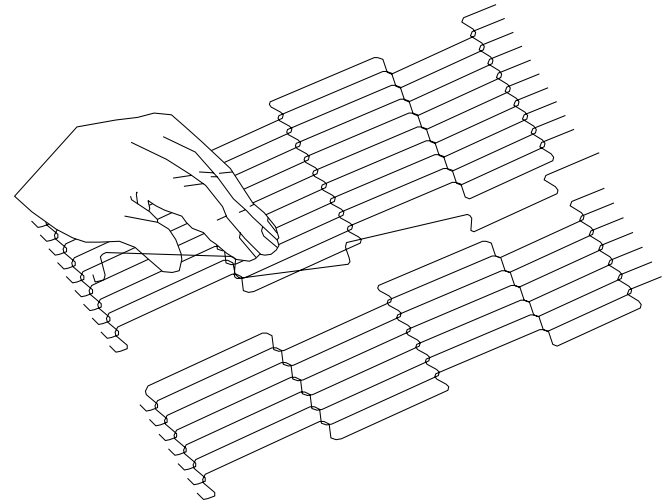

**Figure 4-29.**
3. Remove the outside master links on the right and left sides of the conveyor belt as shown in Figure 4-29.